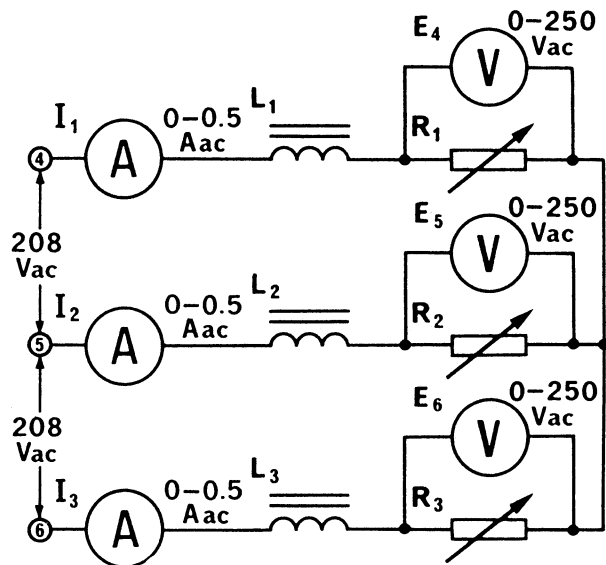

Figure 46-3.
- e. Return the voltage to zero and turn off the power supply. Reconnect each of the voltmeters as shown in Figure 46-3.